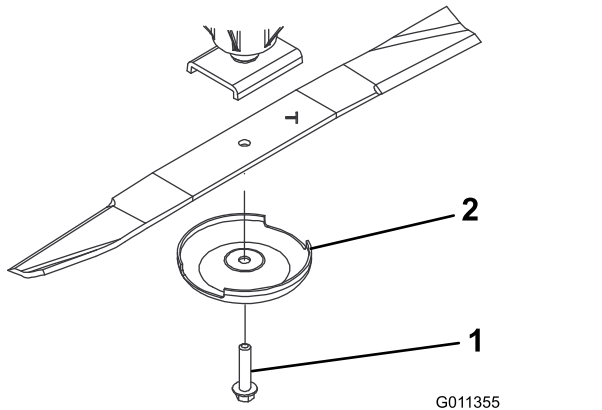

Figure 71
2. Grasp the end of the blade using a rag or thickly padded glove. Remove the blade bolt, anti-scalp cup, and blade from the spindle shaft (Figure 71).
3. Install the blade, sail facing toward the cutting deck, with the anti-scalp cup and blade bolt (Figure 71). Tighten blade bolt to 115–149 N-m (85–110 ft-lb).